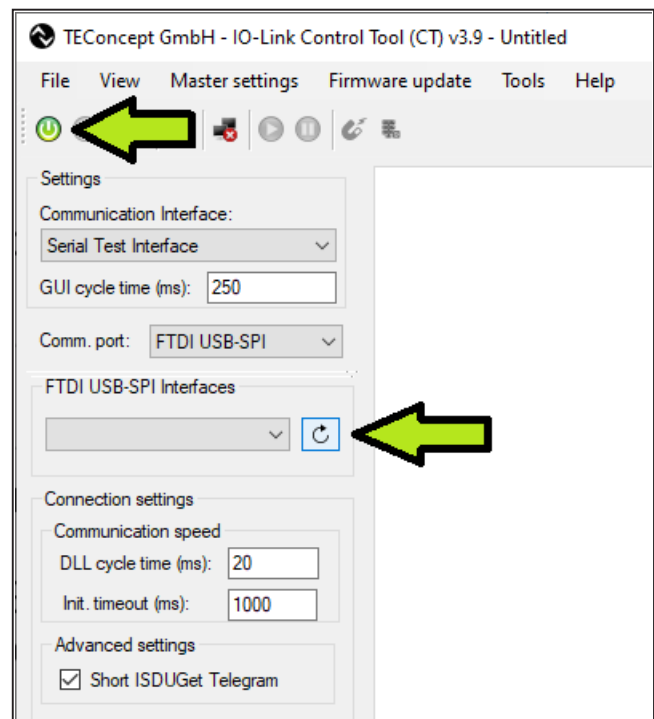

Figure 4. Connect and Refresh buttons in the IO-Link Control Tool software.
- 4) Open the IO-Link Control Tool software as shown in Figure 4, and in the **FTDI USB-SPI Interfaces** area, click **refresh** button. The GUI automatically finds the IO-Link Master. Then click green **connect** button.